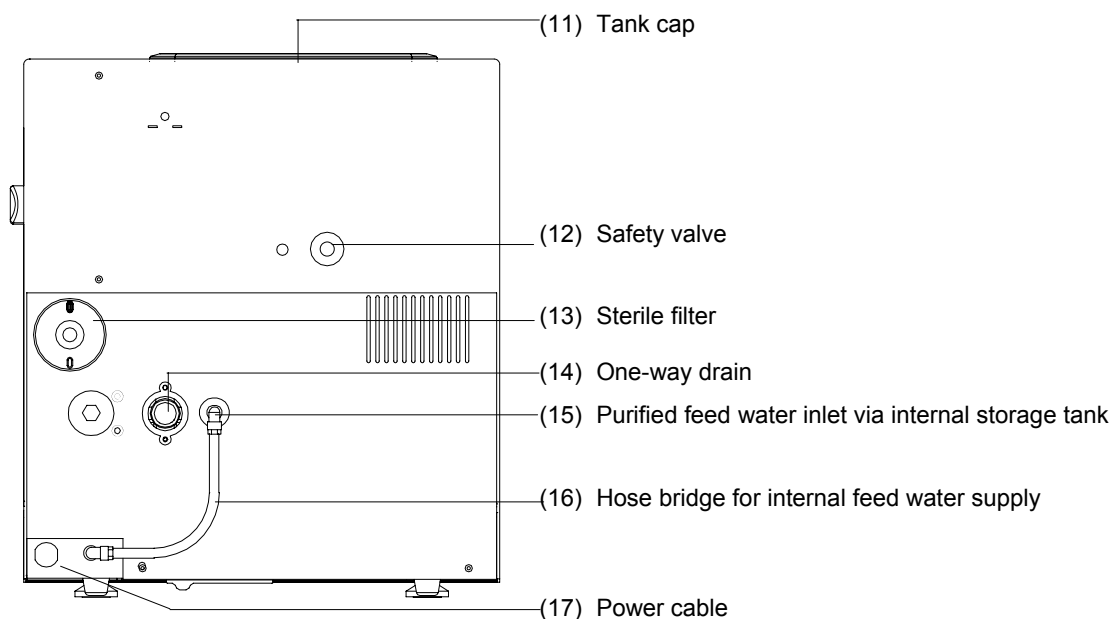

Fig. 1: Device views
The autoclave is connected to the drain via the one-way drain (see page 10, Fig. 1/ (14)).